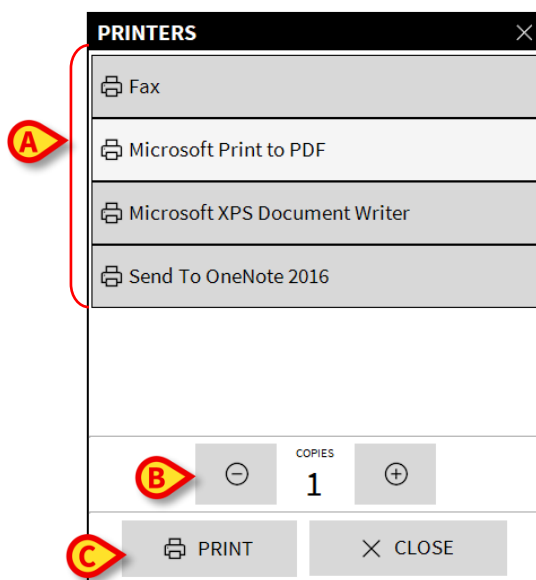

Fig 30
Use the **Print...** button (Fig 24 **H**) to display the print options window (Fig 30). See paragraph 5.8.2.4 for a description of this window and the related procedures.
- Click the **Print...** button (Fig 24 **H**) to display the print options window (Fig 30)
- Click the appropriate printer on the menu to select the printer (Fig 30 **A**)
- Use the  (one less copy) and the  (one more copy) buttons to specify the number of copies (Fig 30 **B**)
- Click the **Print** button (Fig 30 **C**) to print the report